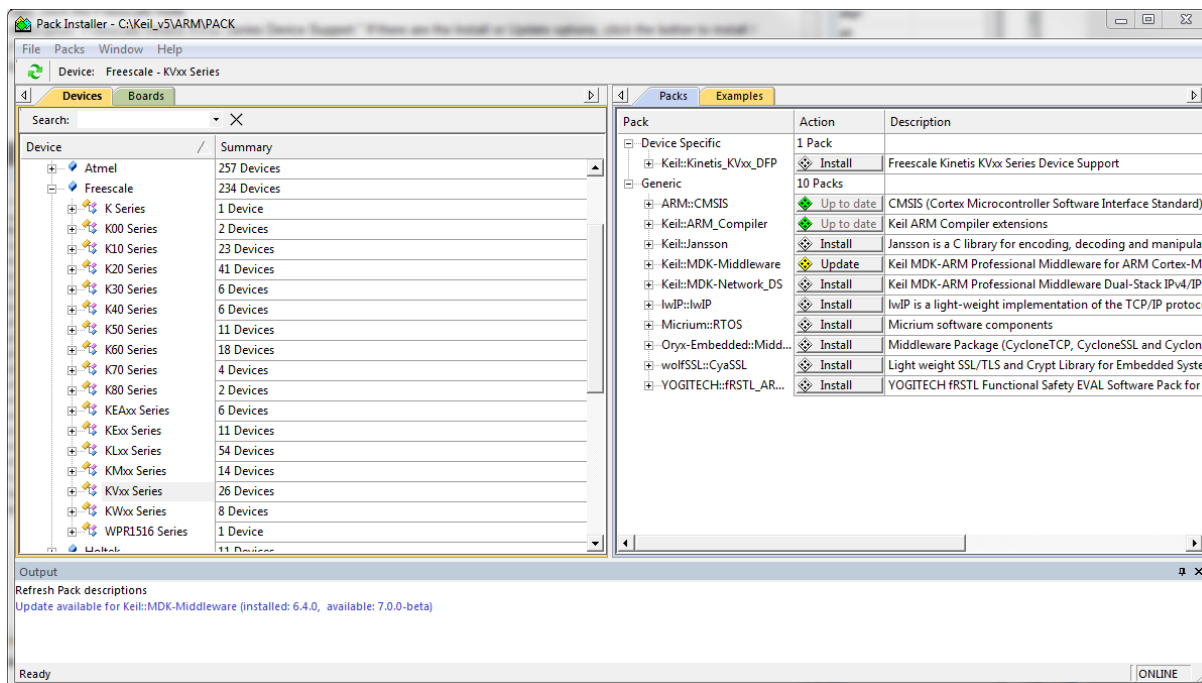

Figure 1-27. Pack Installer
6. Look for a node called "Keil::Kinetis_KVxx_DFP." If there are the Install or Update options, click the button to install/update the package. See Figure 1-27.